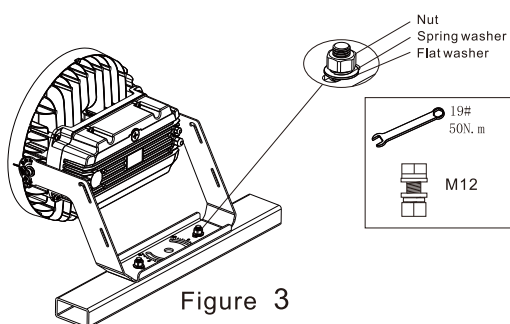

Figure 3
3. Install the luminaire on the crossbar and secure it with nuts, spring washers and flat washers . (Figure 3)